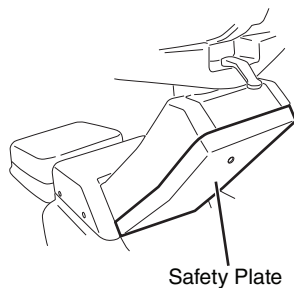

Figure 1: Safety plate.
2. Remove the safety stop plate. (See Figure 1).